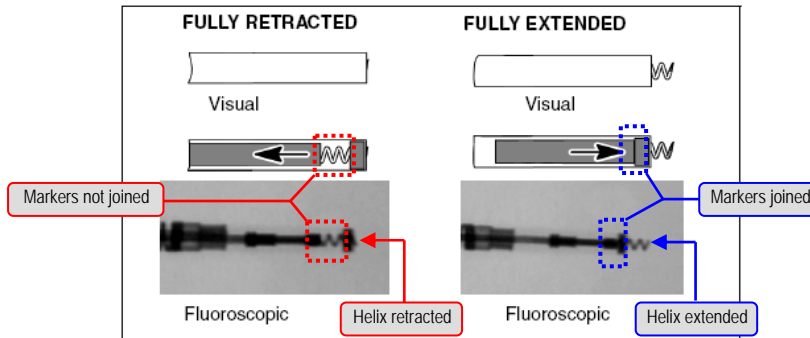

Figure 2. Fluoroscopic markers illustrating appropriate retraction/extension.
4. Verify under fluoroscopy that the radiopaque markers are joined and the fixation helix is extended outside the distal fluoroscopy marker (Figure 2).